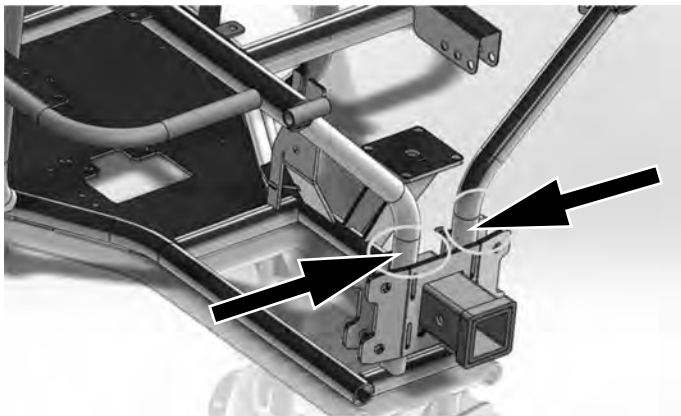

figure 4.18
3. Tie down rear of unit above suspension bracket as shown in fig 4.18